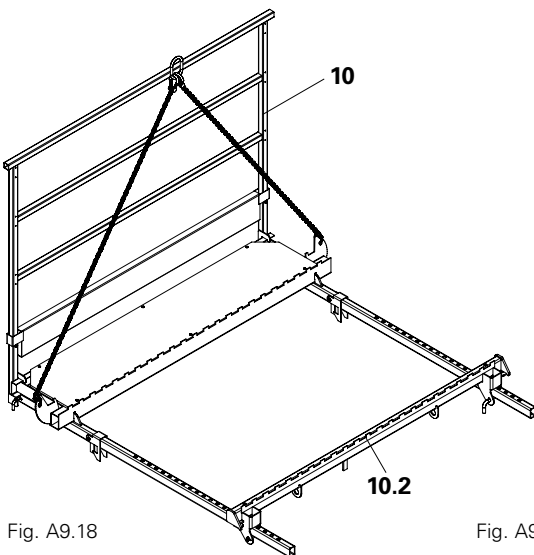

Fig. A9.18
4. Hook in the guardrail (10.4) and fix it to the longitudinal beam with the captive bolts. (Fig. A9.18)
5. Platform (10) is fully assembled. (Fig. A9.18)